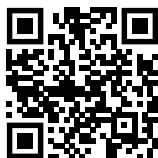

Fig. 151
- ▶ Atveriet Liebherr SmartMonitoring Dashboard. (skat. Fig. 151)